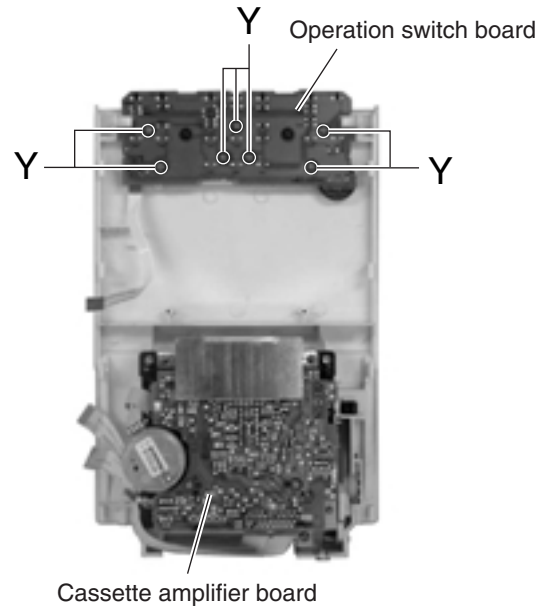

Fig.40
■ Removing the operation switch board (See Fig.40)